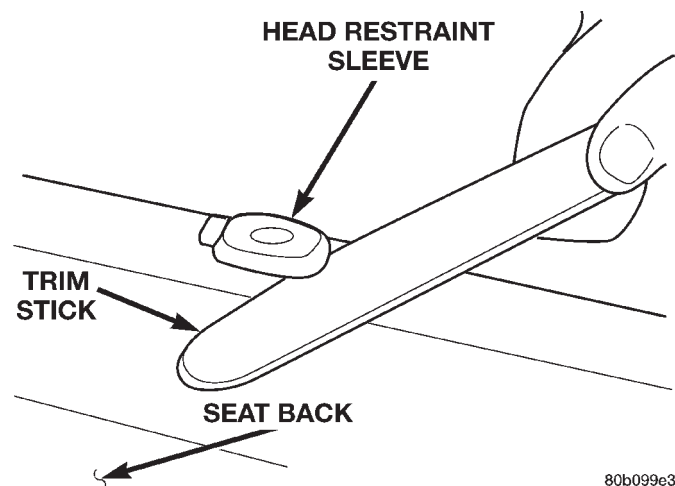

Fig. 14 Head Restrain Sleeve
- (1) Remove head restraint.
- (2) Using a trim stick, pry head restraint sleeve from seat back (Fig. 14).
- (3) Separate head restraint sleeve from seat back